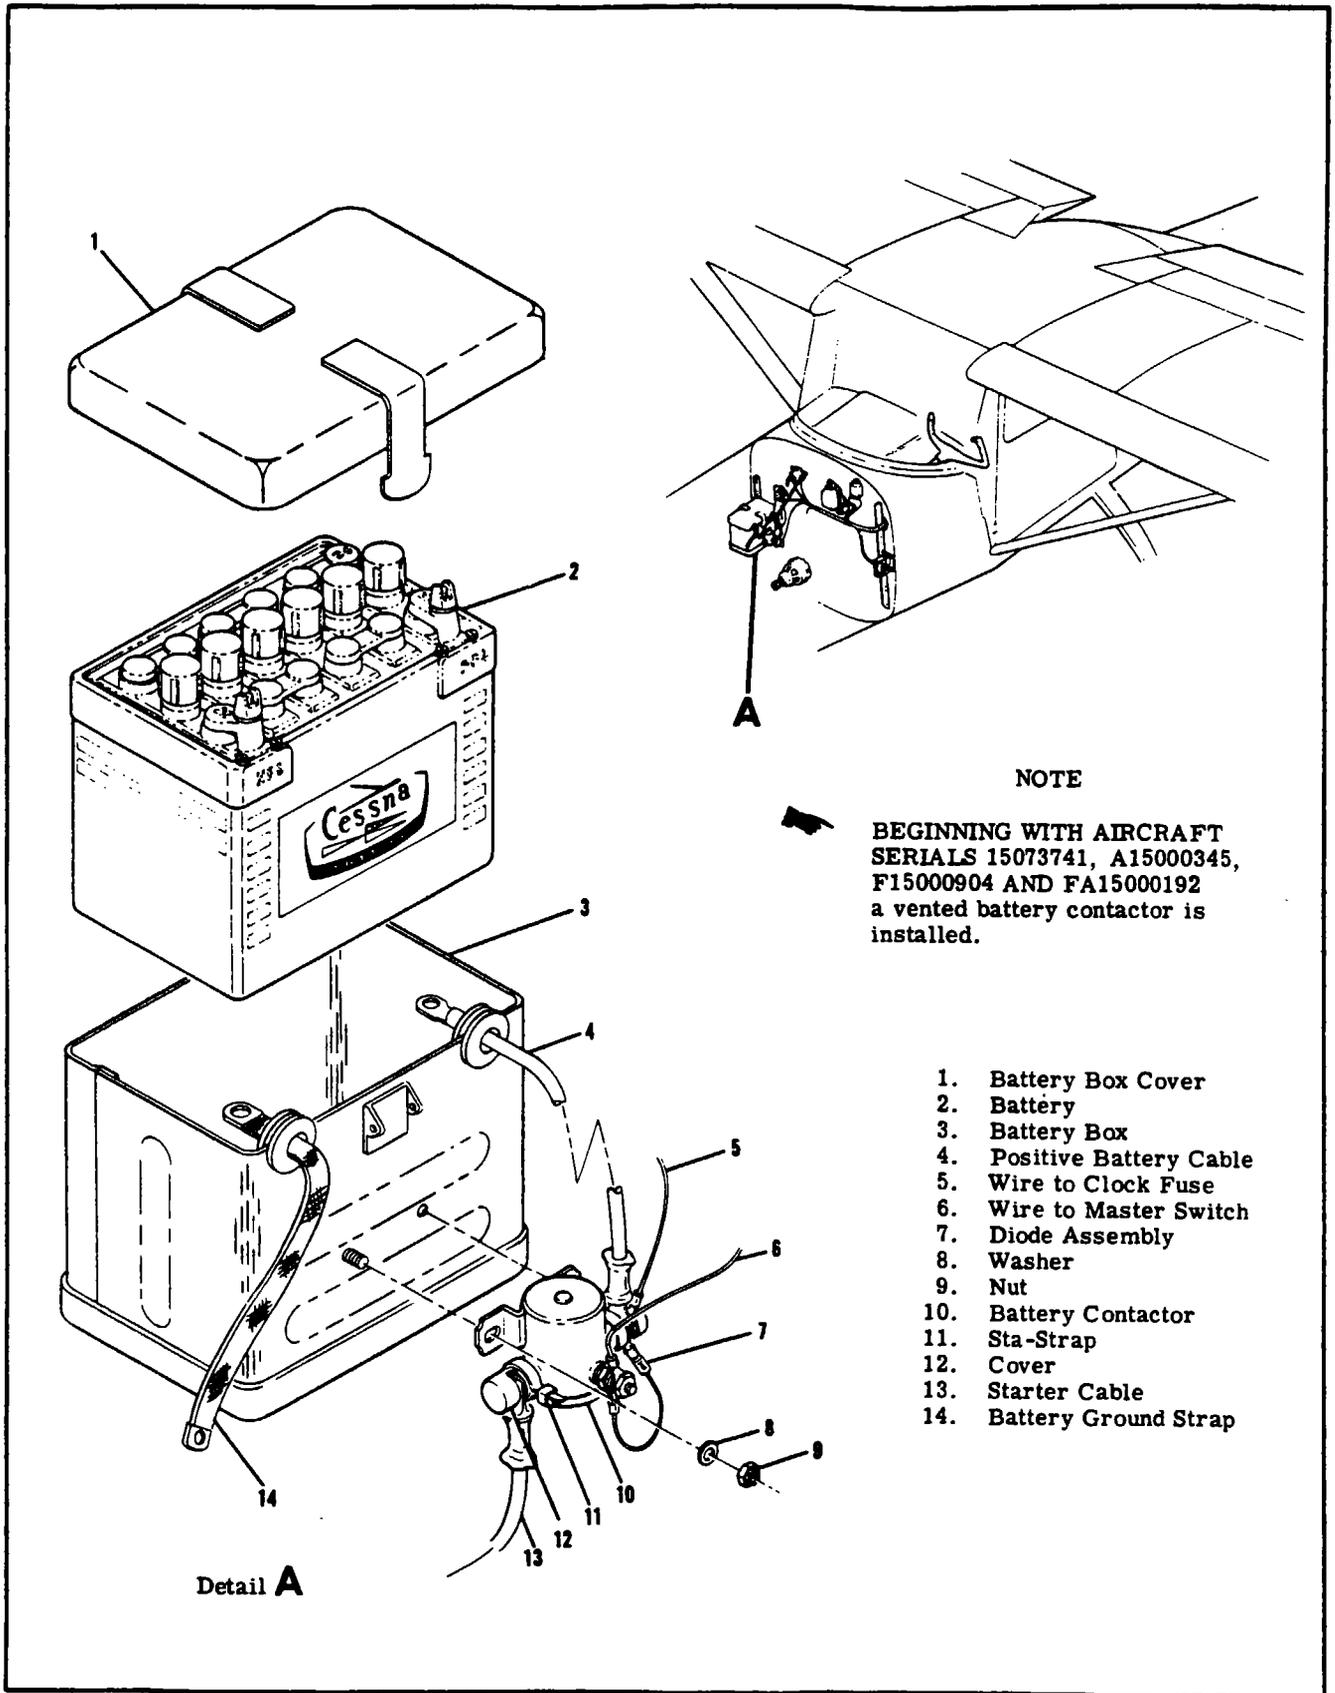

Figure 16-1. Battery, Battery Box and Battery Contactor Installations
16-13. REMOVAL AND INSTALLATION (Refer to figure 16-1.)
16-20. REMOVAL AND INSTALLATION. (Refer to figure 16-1). The battery box is riveted to mounting brackets on the firewall. When a battery box is installed and riveted into place, all rivets and scratches inside the box should be painted with acid-proof lacquer, Part No. CES1054-381, available from the Cessna Service Parts Center.
diode and the master switch wire connect to the minus terminal of the contactor coil. A nylon cover is installed on the terminals to prevent accidental short circuits. Refer to figure 16-1.
**16-24. REMOVAL AND INSTALLATION** (Refer to figure 16-1).